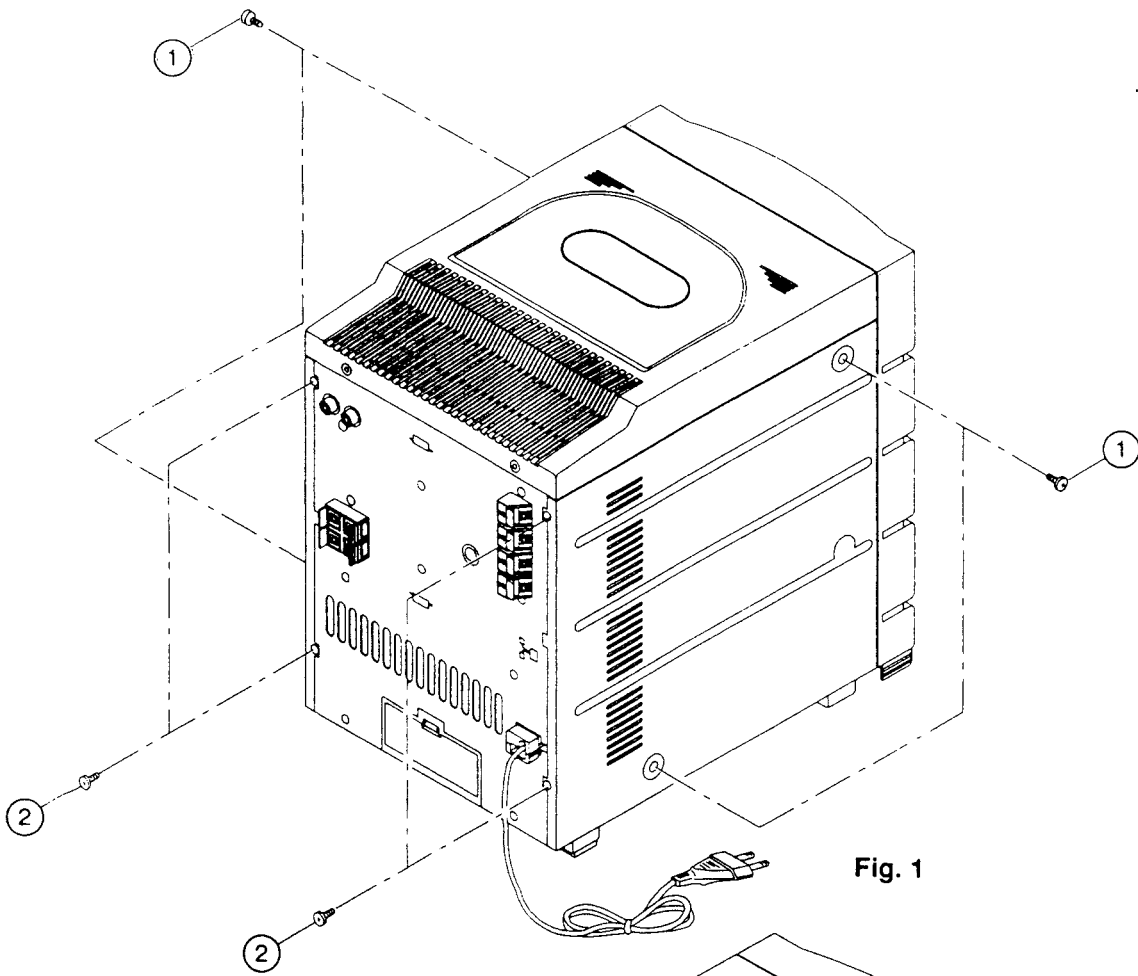

Fig. 1
1. **Removal of Side Cover. (Fig 1)**